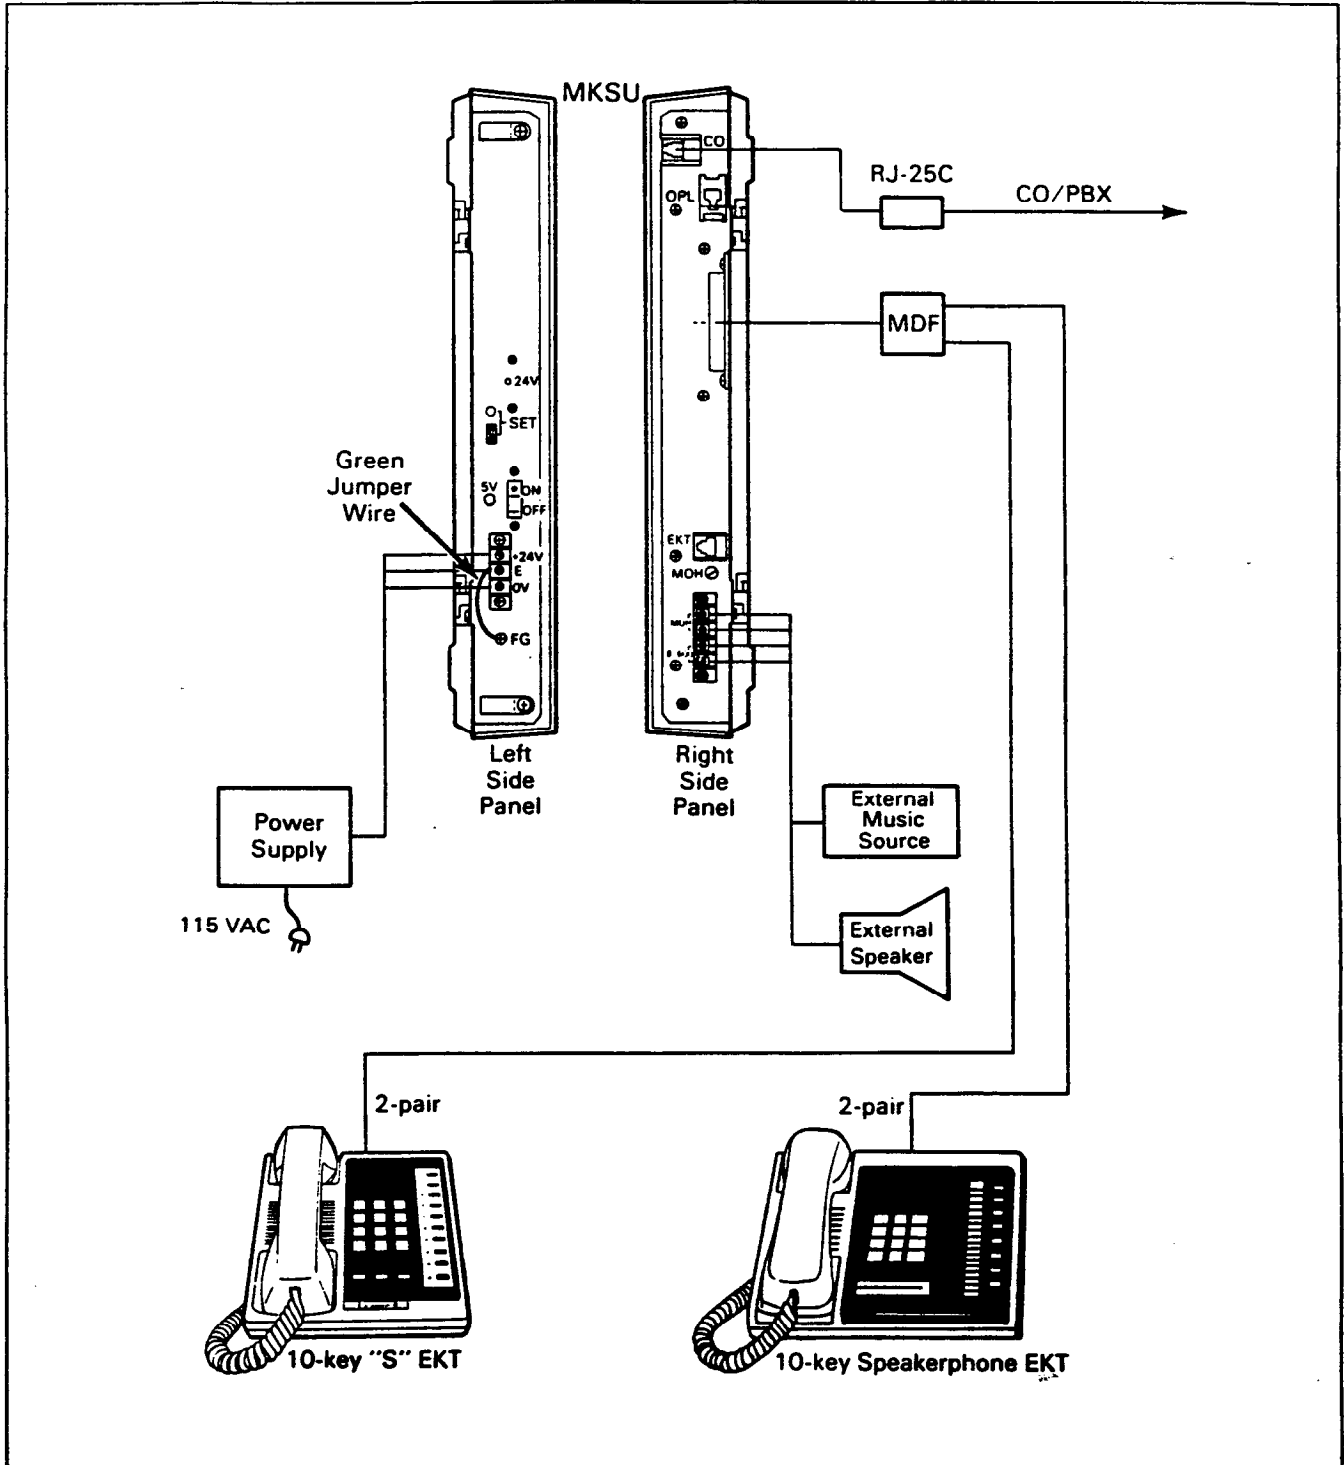

FIGURE 8—SYSTEM DIAGRAM
05.01 The system (Figure 8) consists of an MKSU, power supply and up to eight EKTs. All connections between the MKSU and the EKTs are made via a customer-provided main distribution